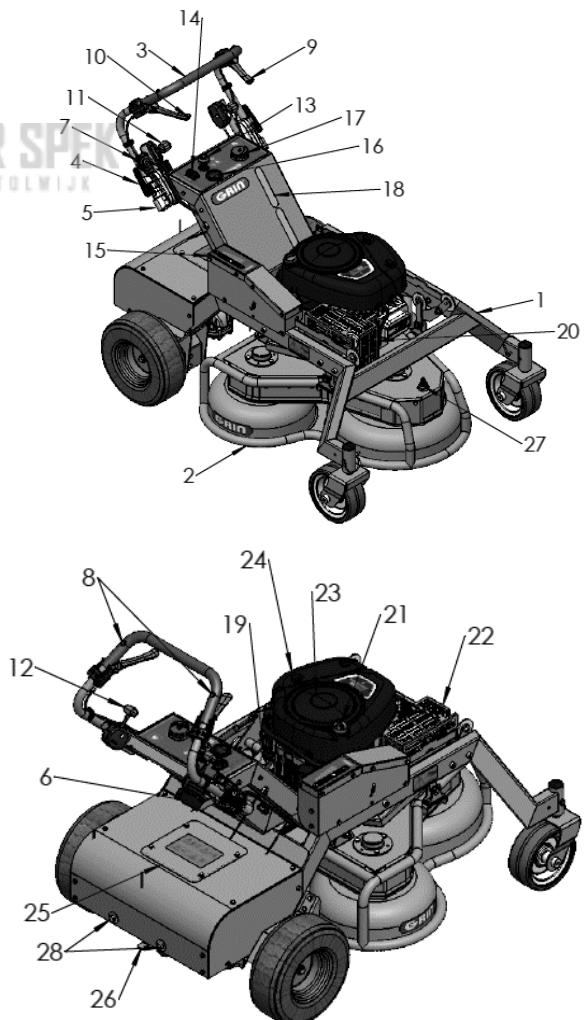

Fig. 7 - Machine components
Your Grin XM is delivered with oil in the engine. After approximately 5 hours of operation, it is recommended to check the oil level with the oil dipstick (Fig.7_21) and top up if required. Refer to the engine manual for oil quantity and type.
2. Unscrew the petrol tank cap (Fig. 7_17), but only after removing any dirt or residues from the cap zone.
3. Fill with normal unleaded petrol by using a funnel. You can check the petrol level by means of the fuel level gauges located on the machine (Fig.7_18). Do not fill beyond the visible level, leave room for fuel expansion. Remove any leaked or spilled petrol immediately; never mix oil with fuel.
6. Open the petrol cock between the tank and engine. (Fig.7_19). It is recommended to always close the cock during transport to prevent too much petrol from entering the engine.
NB: When the engine is cold, move the engine speed adjustment lever (Fig.7_12) to the choke position.
!!! CAUTION !!! After starting the engine, immediately remove the engine speed adjustment lever (Fig.7_12) from the choke position
Your XM is equipped with electronic millimetric cutting height adjustment. After switching on the machine, press the height adjustment button (Fig.7_14) to raise or lower the cutting system. The set height can be checked via the height indicator (Fig.7_15). Moving the indicator towards the green area increases the cutting height. Moving the indicator towards the red area decreases the cutting height.
1. After starting the engine, disengage the parking brake by moving the lever (Fig.7_6) to the right and then upwards.
2. After checking that the cutting width is correct, start the cutting system by lifting the yellow pushbutton on the dashboard (Fig.7_13).
3. Move the gear lever (Fig.7_11) forwards or backwards. Move the lever gently so as to gradually vary the speed, particularly when using reverse gear. Sudden changes in speed may cause the operator to lose balance.
4. To steer the machine, press the left lever (Fig.7_9) to go left and the right lever (Fig.7_10) to go right. Pressing the short lever adjusts how narrow the curve will be. When the lever is pressed fully, the machine will spin around.
1. Move the forward/reverse lever (Fig.7_11) to neutral position (N)
2. Engage the parking brake, moving the lever downwards (Fig.7_6)
3. Switch off the cutting system by pressing the yellow pushbutton on the dashboard (Fig.7_13)
4. Release the dead man safety switches (Fig.7_8) to switch off the machine.
1. Unscrew the fixing screws of the On-board kit (Fig.7_28), position the plate and tighten the screws as shown in the picture above. Tighten the screws with a torque of 50Nm.
- III. Access the battery compartment by unscrewing the 4 screws securing the door (Fig.7_25). Disconnect the battery and connect it to a charge maintainer.